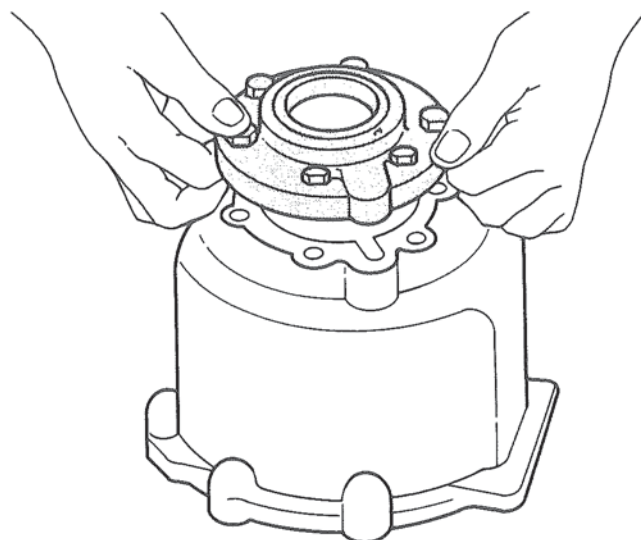

Figure 11. Removing Bearing Retainer.
9. Remove six (6) hex head bolts and lockwashers, then remove bearing retainer. Figure 11.